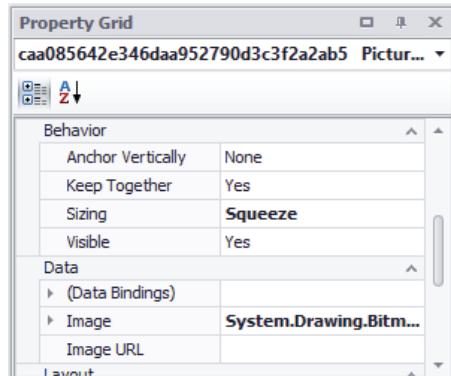

Figure 31 Property Grid
Step 2. With the element selected, find the **Image** property under the **Data** section in the **Property Grid**, as shown in *Figure 31*.
Step 4. To adjust how the image displays, change the **Sizing** property in the **Behavior** section in the **Property Grid**, as shown in *Figure 31*.